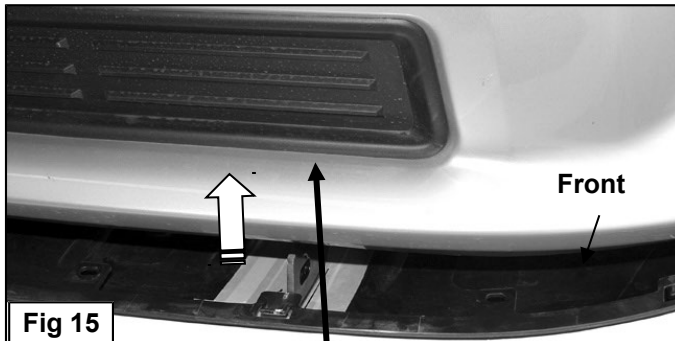
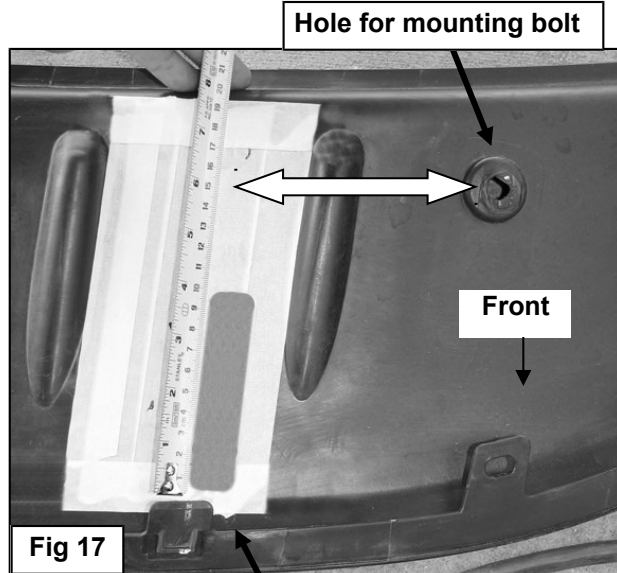

Fig 15
Fig 17
6. Stand back from the vehicle and check to see that the Bull Bar is centered and level on the vehicle and adjust as necessary. Tighten only the hardware securing the Upper and Frame Mounting Brackets to the vehicle first. Next tighten only the (4) 8mm Hex Bolts securing the Tube Brackets to the Bull Bar as described in **Step 4**. Do not tighten the 12mm hardware attaching the Tube Brackets to the Frame Mounting Brackets. Remove the Bull Bar with Tube Brackets attached.
7. Hold the splash guard up to the bumper cover and align it with the mounting points, **(Figure 15)**. Mark the location of the Mounting Brackets onto the back of the splash guard, **(Figures 15—17)**. Cut an approximately 1" wide by 4" long slot in the splash guard, **(Figure 17)**. **NOTE:** The size of the slot is an estimate only and may vary due to different factory designs for the splash guards and front bumper covers. Also, additional cutting may be required to clear the Support Bracket on vehicles equipped with tow hooks. **IMPORTANT:** To avoid weakening the splash guard, do not cut the slot any larger than necessary. Do not cut through the front or back edges of the cover, **(Figure 17)**. Make several small cuts first and check the fit often for a clean installation.